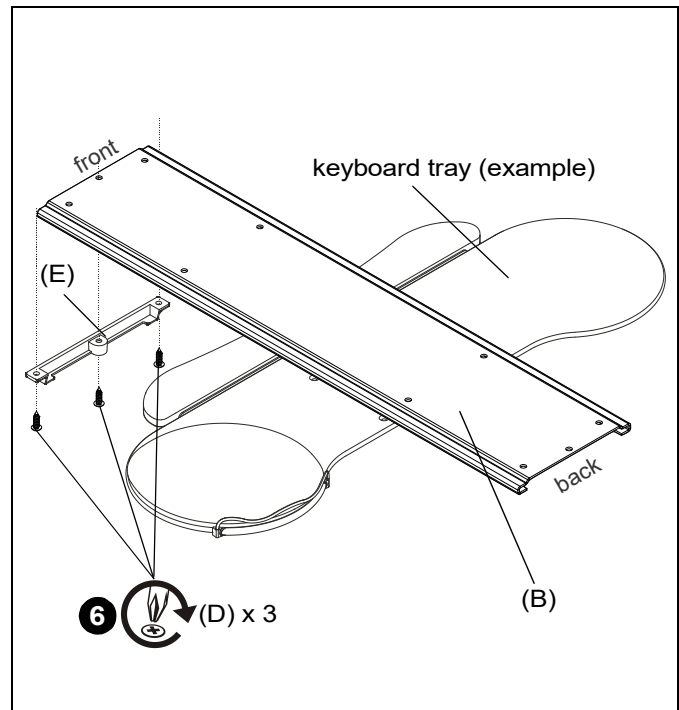

Figure 4
- Use three #8 x 5/8" wood screws (D) to secure track guard (E) to under-desk track (B) and desk. (See Figure 4)